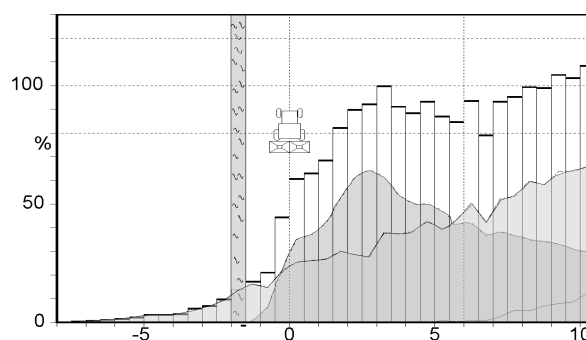
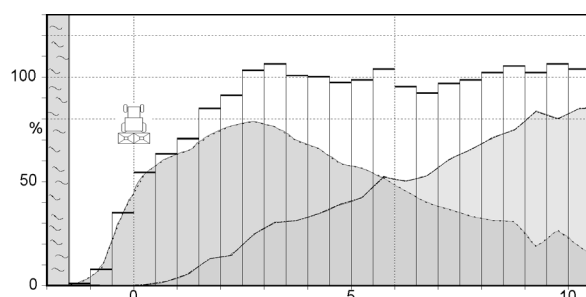

Fig. 9
Fig. 10
- intend to create tramlines in bout widths of 10 or 12 m (Fig. 9 and Fig. 10).
The OM 10-16 has got a spread width of approx. 36 m (see Fig. 10). This way large overlapping zones result for 15 and 16 m which are of advantage for an even fertiliser application. At 10 and 12 m working width this large spreading width may be disadvantageous, especially when using the boundary spread deflector.
Border spreading (with border spread deflector) at a spacing of 1.5 m with 16 m tramlines is recommended as no fertiliser is thrown beyond the field's border. If, however, one travels with 12 m or 10 m bout width, the OM 10-16 with the same vane position (with some kinds of fertiliser, e.g. CAN, it is possible to achieve with the same vane position an optimum lateral distribution at working widths of 10 – 16 m) throw considerable amounts of fertiliser beyond the border (approx. 4.5 or 6.5 m) when driving back (see Fig. 9)
As according to the fertiliser decree fertilising beyond the field's border is not allowed, the decree can only be followed for the above mentioned operational ranges by using OM 10-12 (see Fig. 9). When operating with the border spreading disc TS 5-9 with 5 m distance towards the border the OM 10-16 also throws approx. 3 m beyond the field's border, so that also here the use of OM10-12 will be necessary.